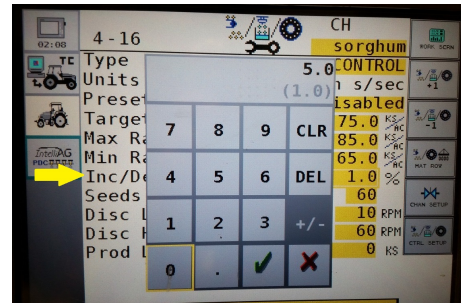

Figure 15
Step 10. Select **Inc/Dec%** and enter. (Figure 15) This is the % at which rate will adjust every time the (+) or (-) button is pushed while going through field.